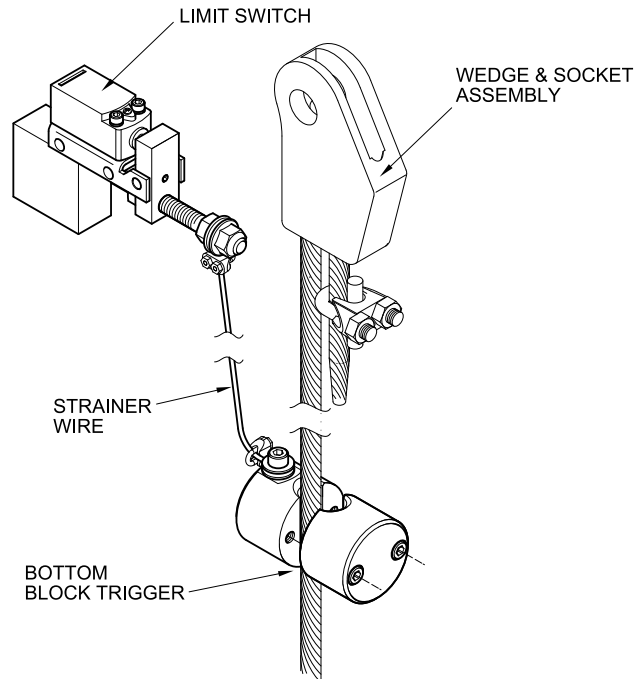

Figure 15 – Ultimate Upper Limit Switch – Hook Block Type
**The bottom block trigger must be positioned around the fixed rope on the reeving arrangement i.e. the rope which terminates at the wedge and socket (Figure 15).**